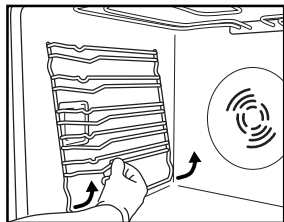

Fig. 1
1. Remove the side accessory holder grilles (Fig. 1).
2. Remove the side accessory holder grilles, if present (Fig. 1).